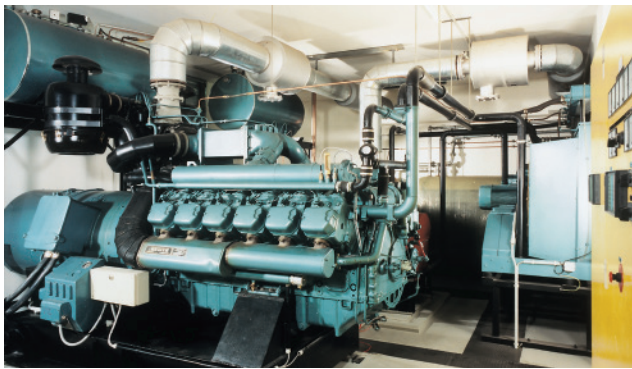

Figure 3: The four main applications of the NZM compact circuit-breakers, for which IZM circuit-breakers are partly used with higher currents:
- generator protection (Figure 3).